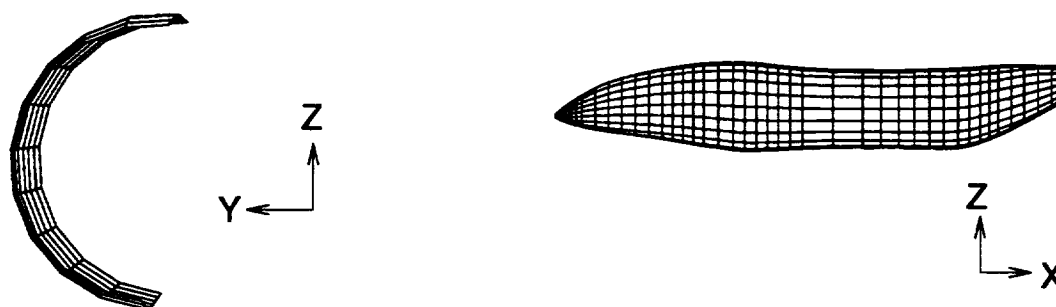

FIGURE B.1.
- It is desirable that the surface be symmetric across the X-Z plane and be defined by the geometry on the positive side of the plane (see fig. B.1.)